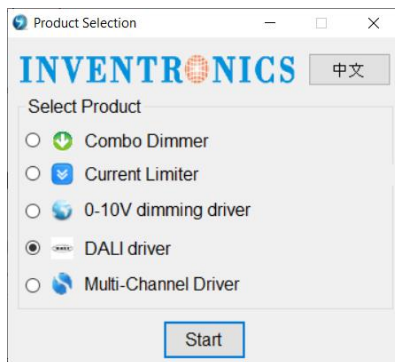

Figure 2: Software Options
3. Select and start the DALI Driver software, shown in Figure 2 below.